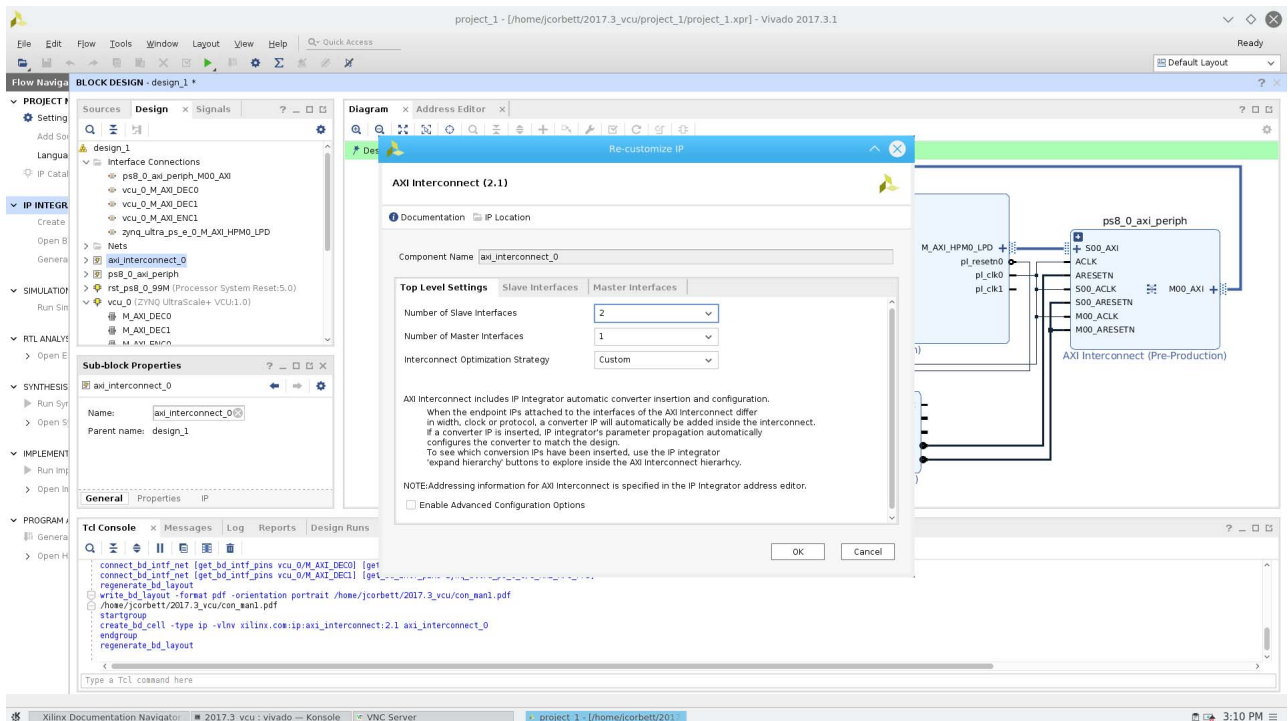

Figure 11-13: AXI Interconnect
15. Add the AXI Interconnect IP and set number of slave interfaces to **2** and master interface to **1** as shown in Figure 11-13.